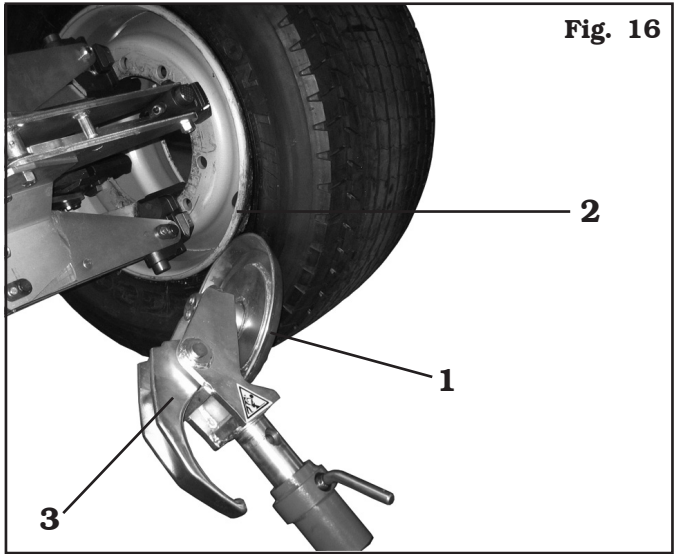

Fig. 16
- Carry out tool holder head 180° rotation according to the descriptions of the relevant paragraph, so that the beading disc (Fig. 16 ref. 1) is placed against rim edge (Fig. 16 ref. 2).